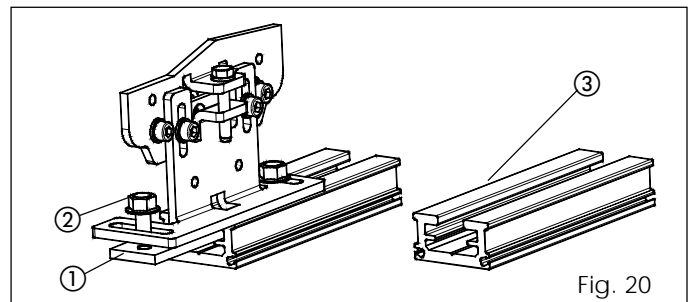

Fig. 20
- Fit the leaf attachment profile (accessory fig. 20 ref. ③) on the top of the leaf, using adequate screws.
- Secure the leaf on the relevant carriages, using the supplied plates (fig. 20 ref. ①) and screws (fig. 20 ref. ②).